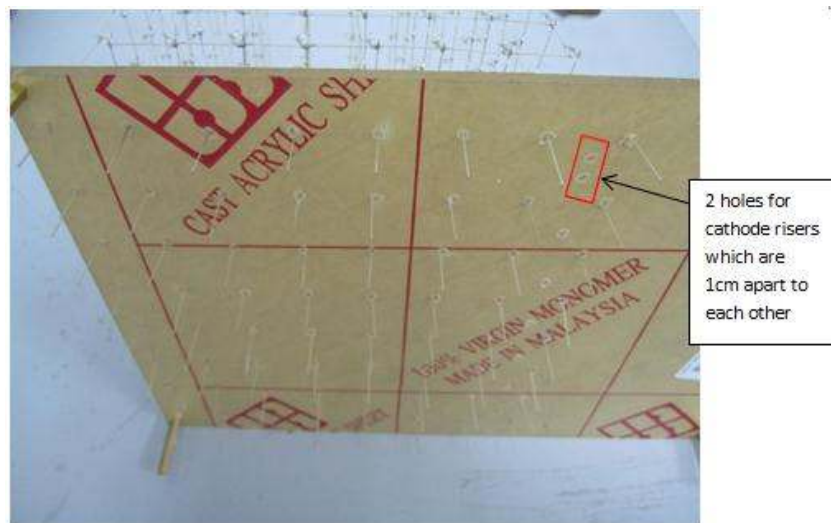

Figure 42: Bottom view of base facing user
4. Lift up the base 90 degree up with the bottom view with the part of 2 holes for cathode risers to pass through separate 1cm from each other at the position indicated as shown in Figure 42 facing you.